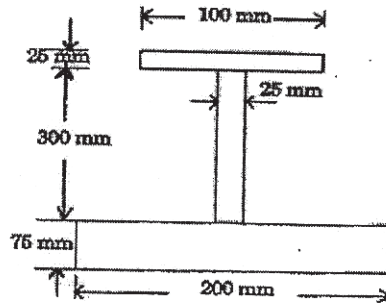

Fig. 5
- (b) Calculate intensity of UDL that SSB of span 4 m and of cross-section as shown in Fig. 5 can carry if permissible stresses in bending are 120 MPa in compression and 40 MPa in tension. [6]